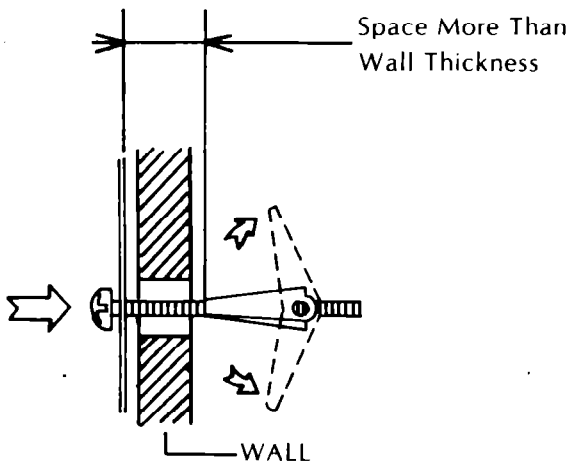

Figure 15
4. Insert nut and bolt through the hole in the wall with toggle nut closed (Fig. 15).